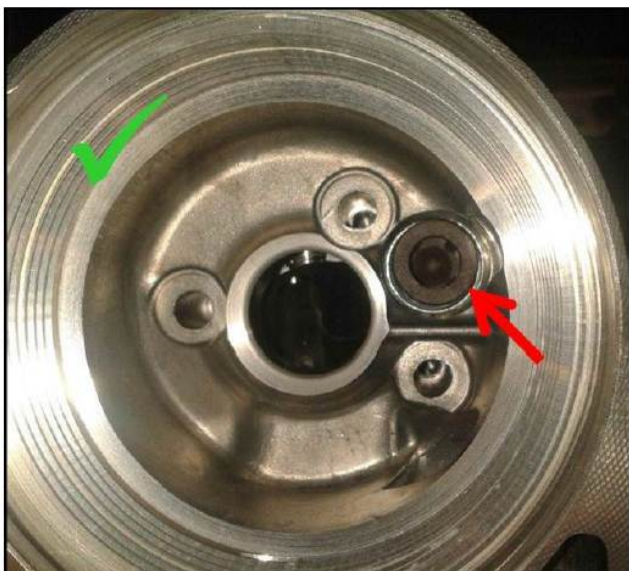

Figure 1
- Visually check the by-pass valve is correctly installed, the orientation of the oil filter by-pass valve should be fitted as shown in Figures 1 and 2, if the by-pass valve is fitted as shown no further action is required